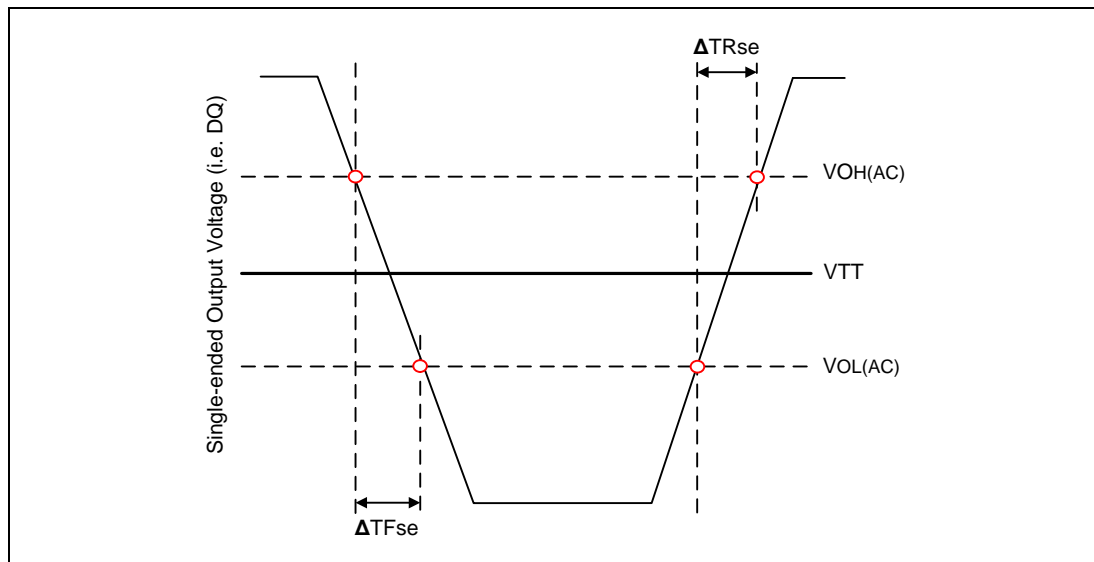

Figure 94 –Single-ended Output Slew Rate Definition
With the reference load for timing measurements, output slew rate for falling and rising edges is defined and measured between VOL(AC) and VOH(AC) for single ended signals as shown in Table 28 and Figure 94.